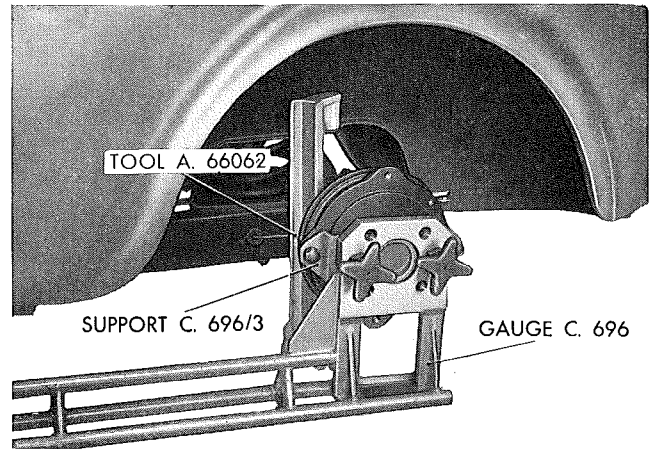

Fig. 261 - Checking left rear wheel toe-in by gauge and tools shown in the figure.
- b) Install fixtures A. 66062 for spring compression and wheel retainment in vertical position (figure 261).
(see also figs. 261 and 263).
d) Secure support C. 696/3 to wheel drum and connect gauge C. 696 to the support, then tightening the two clamping screws (fig. 261).